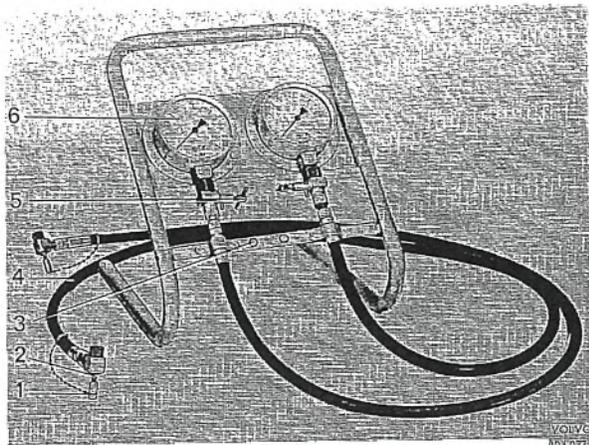

Fig. 5-2. Testing device 2741.
The testing device (Fig. 5-2) is used, for example, to trace faults in the brake system.
2. Remove both the inside bleeder nipples at one of the front brake calipers and connect up the testing device 2741 shown in Fig. 5-2.